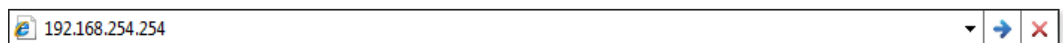

Figure 44. Internet Explorer Address Field
2. Click in the browser **Address** field and enter your SMX IP address (see figure 44).